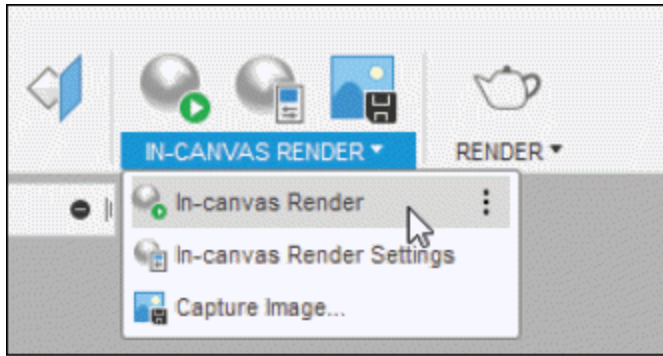
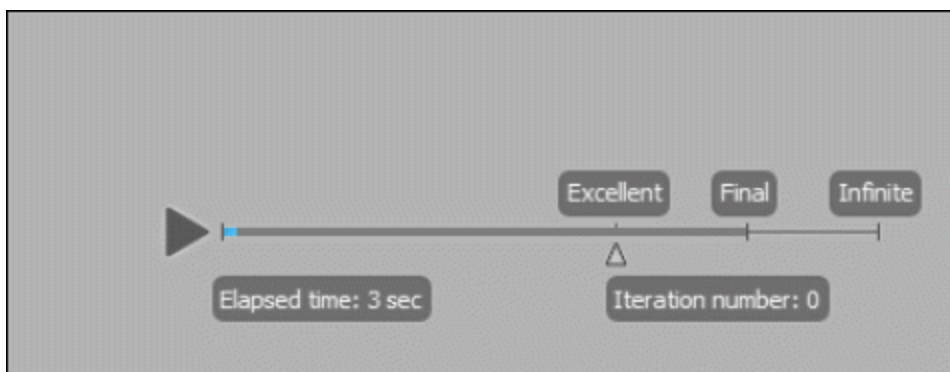

Figure-13. In-canvas Render tool
Figure-14. Render quality slider
- Click on the **In-canvas Render** button from **IN-CANVAS RENDER** drop-down; refer to Figure-13. The render quality slider will be displayed to display at the bottom right area of canvas screen; refer to Figure-14.